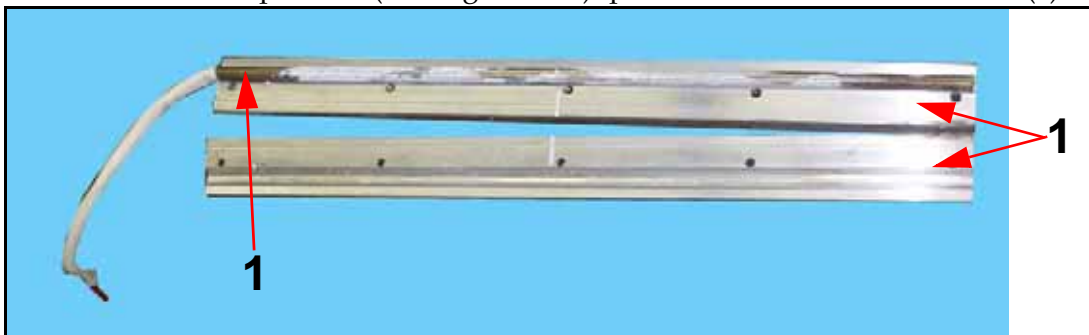

Figure 7-34. Heater Element Removal
- 8 Split bars (1 in Figure 7-34) open and remove heater element (2).